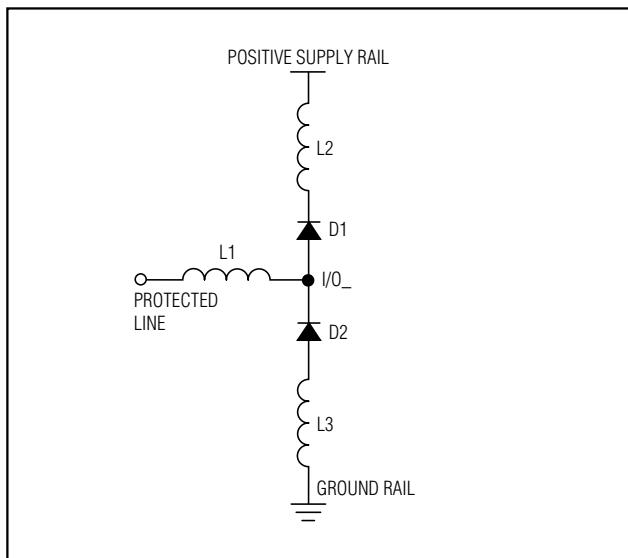

Figure 1. Parasitic Series Inductance
**Note 3:** Idealized clamp voltages (L1 = L2 = L3 = 0) (Figure 1); see the *Applications Information* section for more information.
In reality, the effect of the parasitic series inductance on the lines must also be considered (Figure 1).